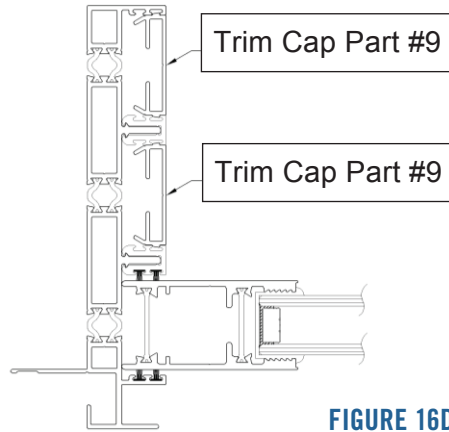

FIGURE 16D
25. Install the 2 remaining trim caps (Part #9) into the interior jamb tracks (Part #6) shown in figure 16d.